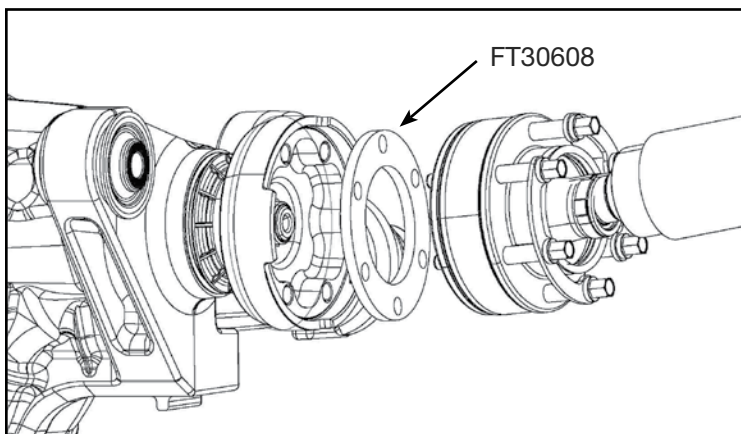

FIGURE 11 - STEP 8
8. Disconnect the front driveshaft from the differential and install FT30608 (Driveshaft spacer) with the factory bolts. Torque to 58 ft-lbs. **SEE FIGURE 11**